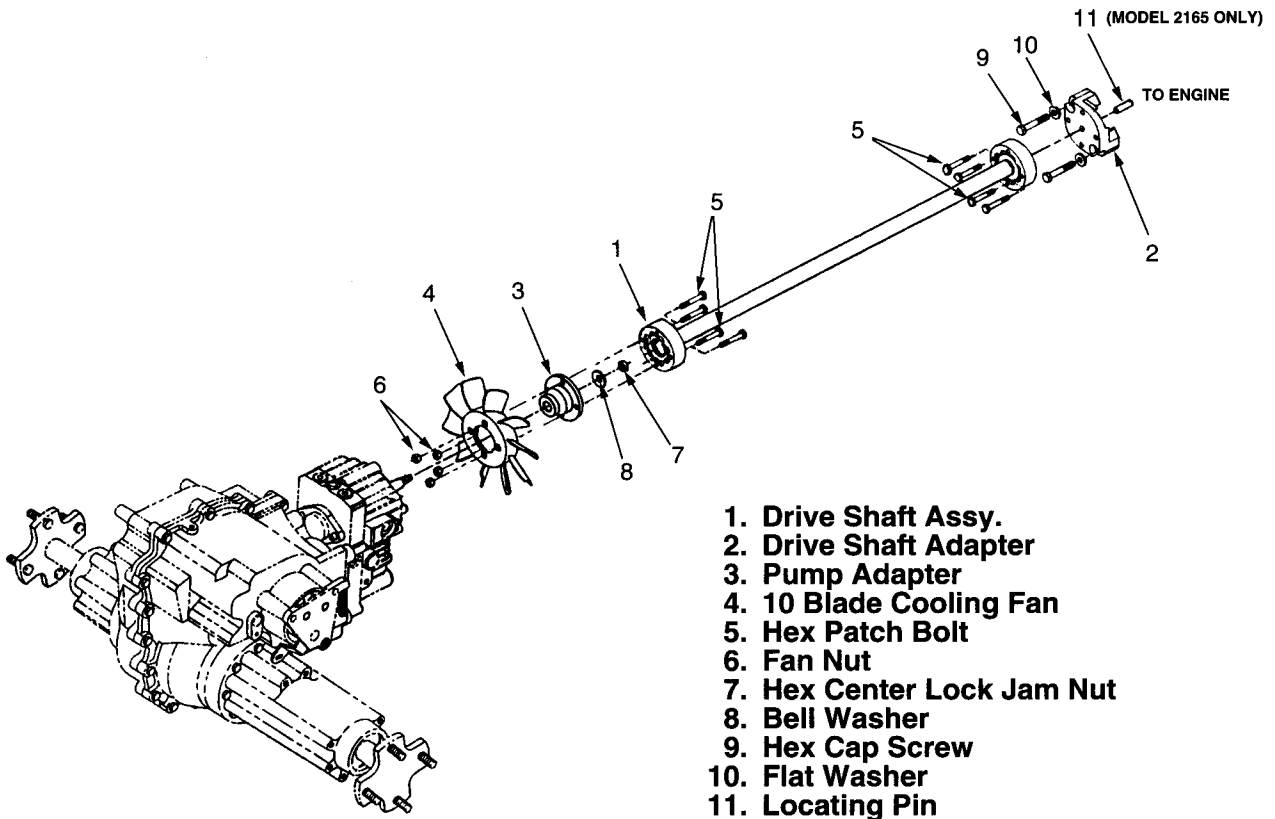

Figure 5-26. Drive Line (Models 2135, 2145, 2165 and 2185).
6. Remove the drive shaft assy. (1, Fig. 5-26) as follows: